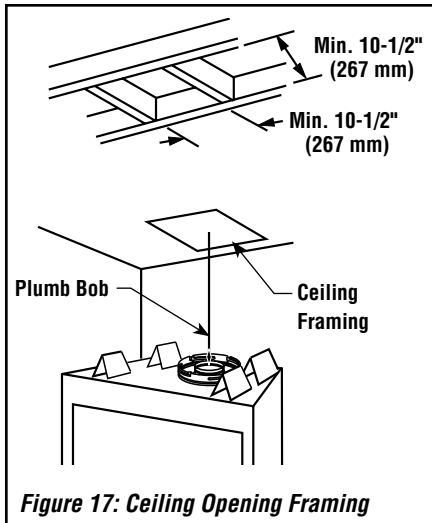

Figure 17: Ceiling Opening Framing
- Meters (M) = Inches x .0254
A. Frame ceiling opening. Use a plumb line from the ceiling above the appliance to locate center of the vertical run. Cut and/or frame an opening, 10-1/2" x 10-1/2" (267 mm x 267 mm) inside dimensions, about this center mark (*Figure 17*).
If the vertical route is to penetrate a ceiling, use plumb line to locate the center above the appliance. Cut and/or frame an opening, 10-1/2" x 10-1/2" (267 mm x 267 mm) inside dimensions, about this center (refer to **Figure 17 on Page 16**).